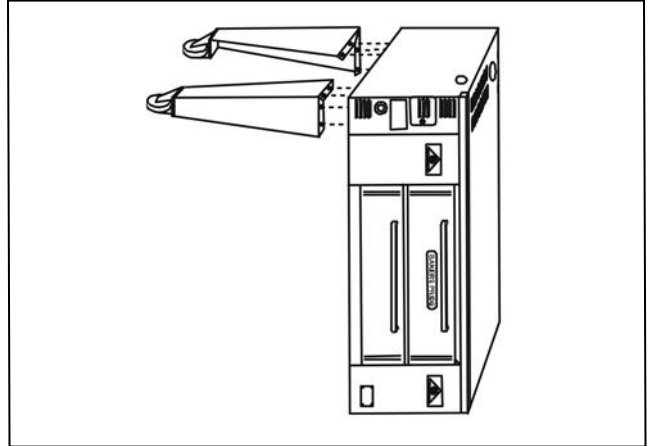

Figure 4
- a) Bolt two legs to the two upper corners (front) of the oven as it stands on the skid (See Fig. 4).